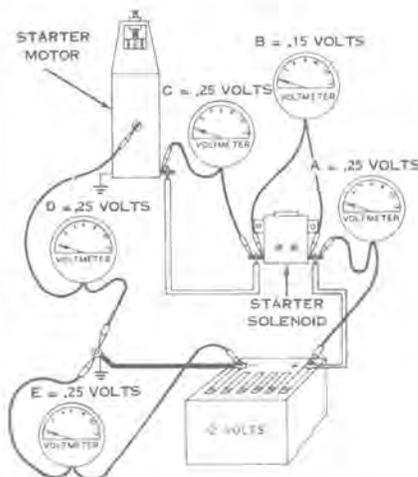

Figure 7-48
- a. By making a systematic check from the positive battery terminal, through the starting circuit and back to the negative battery terminal, any component or electrical connection having excessive resistance, thus causing high voltage drop and subsequent hard starting, can be pinpointed (see Figure 7-48).